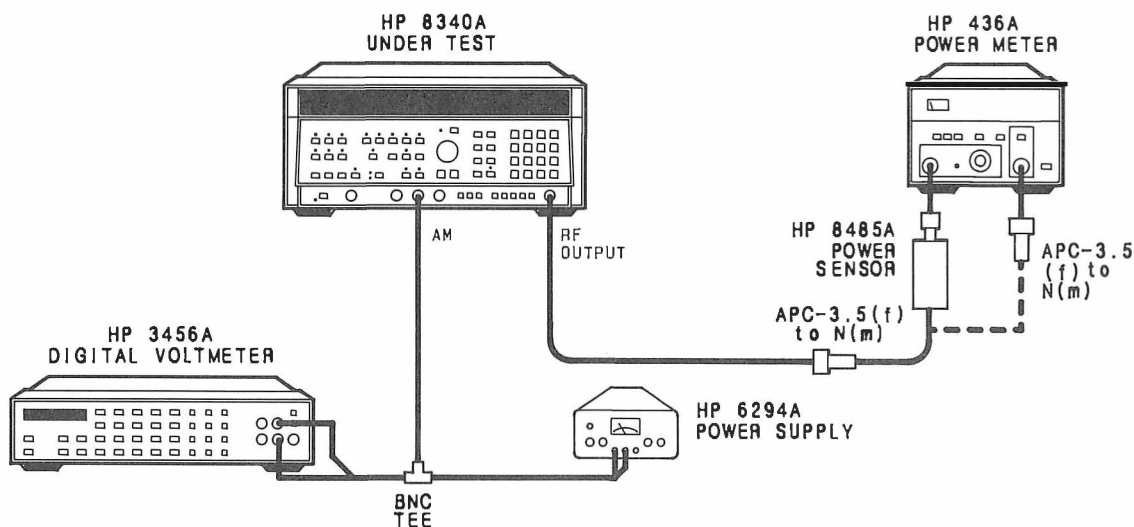

Figure 5-48a. AM GAIN Adjustment Test Setup
28. Set up the following equipment as shown in Figure 5-48a with the power supply set to 0.0 Vdc. Allow the equipment to warm up for at least 30 minutes.